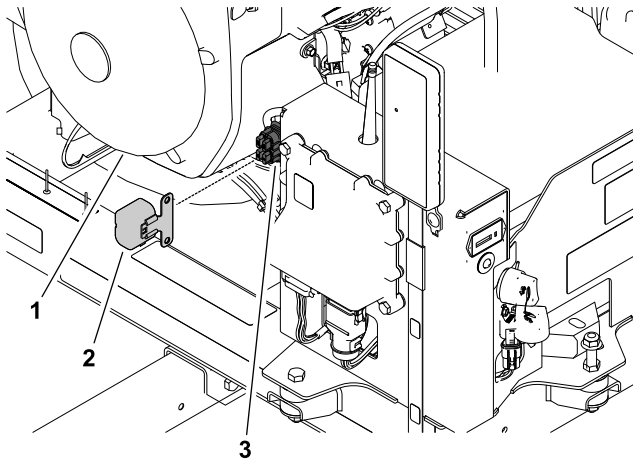

Figure 42
1. At the front, inboard side of the control tower, remove the fuse-block cover from the fuse block (Figure 42).
2. Remove the open fuse from the fuse block (Figure 42).
The fuse block is a part of the machine wire harness. It is located behind the receiver on the right side of the control tower (Figure 42).